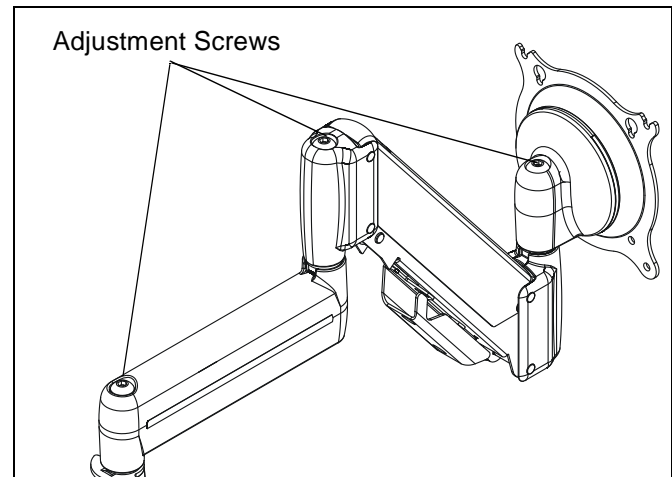

Figure 10
1. Using hex wrench, slightly loosen or tighten the adjustment screw(s) as necessary (See Figure 10).